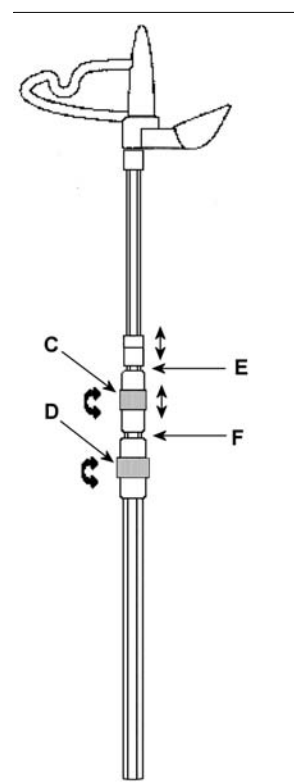

Figure 5
3. Loosen the *Top Ridged Knob* (C in Figure 5) by turning it counter-clockwise. Pull the pole to extend the top section (E) of the *Telescopic Pole*. Tighten the *Top Ridged Knob*.
4. Repeat step 3 for the *Bottom Ridged Knob* (D) to extend the middle section (F) of the *Telescopic Pole*.